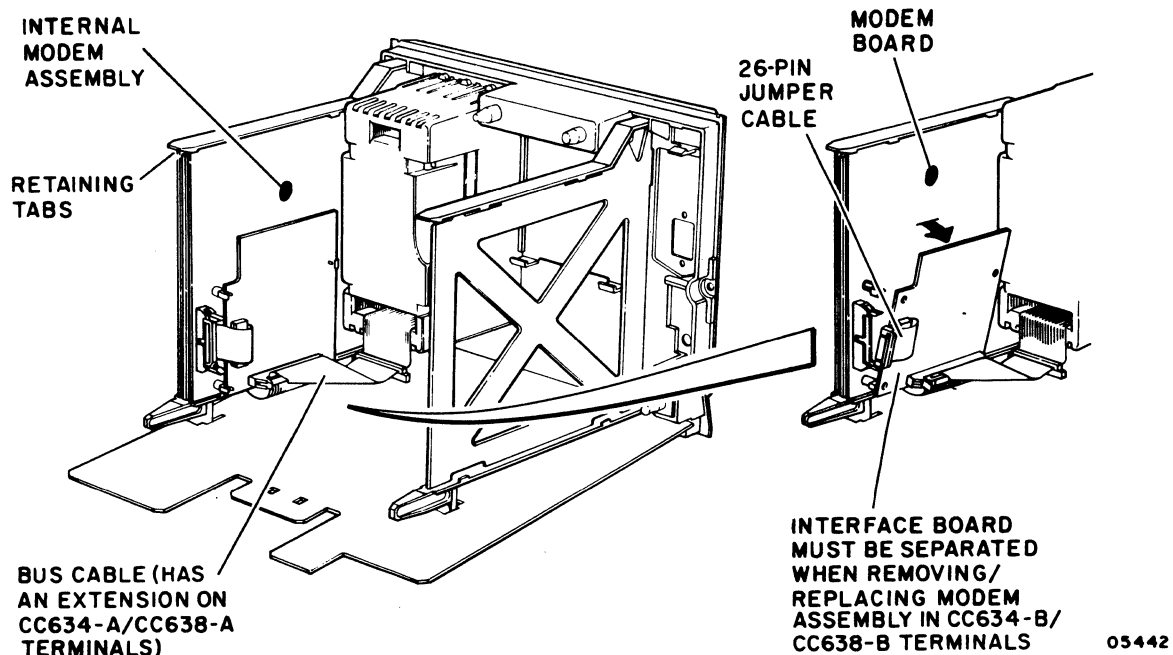

Figure 6B-24. Removal/Replacement of Internal Modem Assembly
9. Check that jumper straps on replacement modem assembly (unpacked in step 1) are in factory-set positions (figure 6B-25).